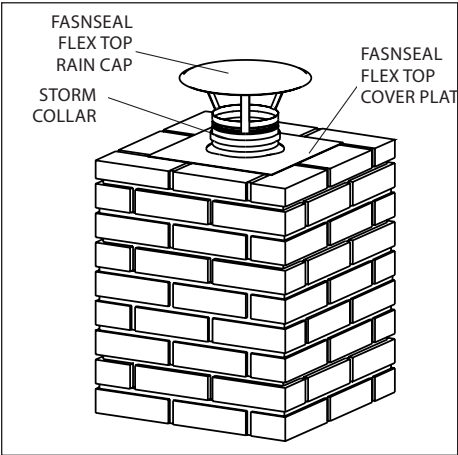

Figure 17
- 3. Slip the Storm Collar portion of the Rain Cap over the liner, position it over the Top Plate and tighten draw band. Reassemble Rain Cap (**Figure 17**).